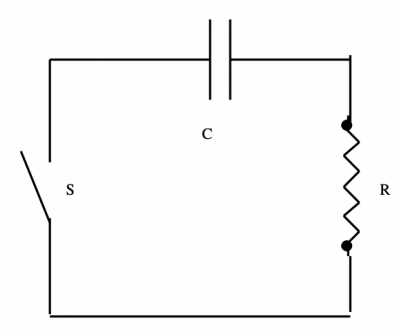

Figure 1: An RC circuit. The switch S is closed at time $t = 0$
We will investigate the effect of a capacitor in a simple AC circuit, the resistor-capacitor, or RC, circuit (see Fig. 1). Suppose the capacitor plates initially differ by electric potential V_o , and the switch is closed at time $t = 0$. From the definitions of capacitance and current plus some calculus, it is straightforward to derive an expression predicting that the current $I(t)$ in the circuit decreases exponentially according to
1. Consider an RC circuit, as shown in Fig. 1. If the switch is closed at $t = 0$, the current in the circuit is given by